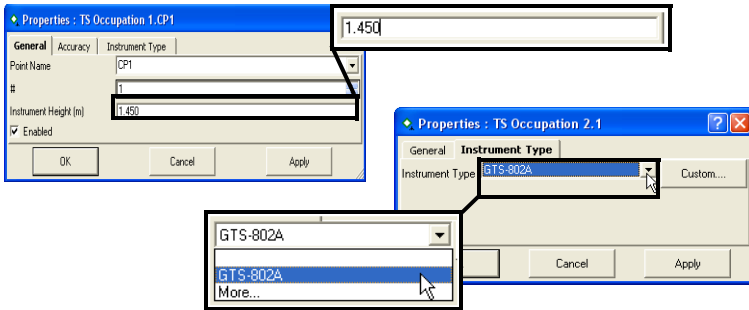

Figure 5-92. Enter New Parameters for TS Occupation
- On the *General* tab, edit the height of the instrument as needed (Figure 5-92).
- On the *Instrument Type* tab, edit the type of instrument used as needed (Figure 5-92).